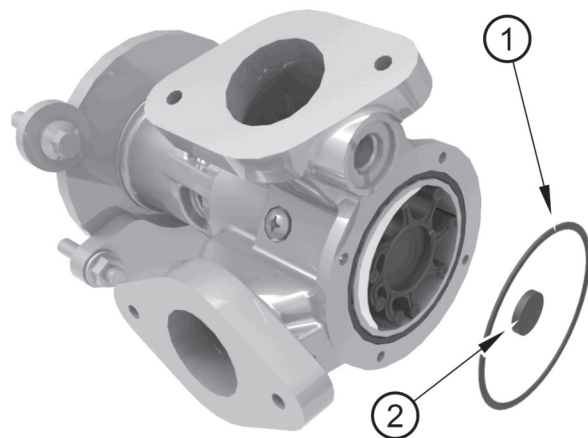

Figure 12
3. Care should be taken with the sealing 'O' ring (figure 12 item 1).